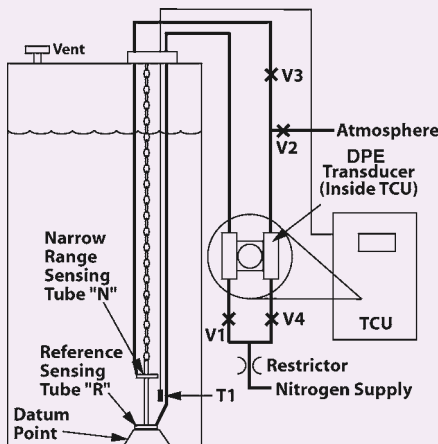

**Figure 2 - Transducer Output**
The high pressure (HP) side of the DPE is connected via a pneumatic line to the reference point "R." The low pressure (LP) side is connected to the tank top. V1 is opened by the TCU and allows a flow of nitrogen (approx. 0.05 cu ft/hr) to charge the line connecting the HP side of the DPE to point "R." The pressure will increase until it is equal to the hydrostatic pressure of the fluid above the reference point "R," plus frictional line loss. This pressure is monitored by the DPE (Figure 2).